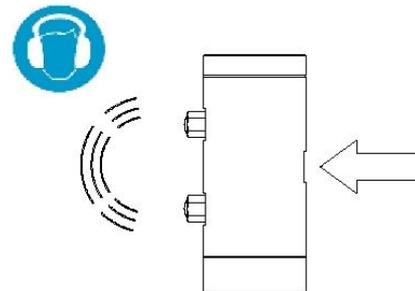

Figure 2.6
For some models in the VPI family this value is higher than 80 dB (A); in this instance with the aim of protecting workers during the use of the vibrator the use of adequate means of personal protection (hearing protection systems) is required (FIG. 2.6).